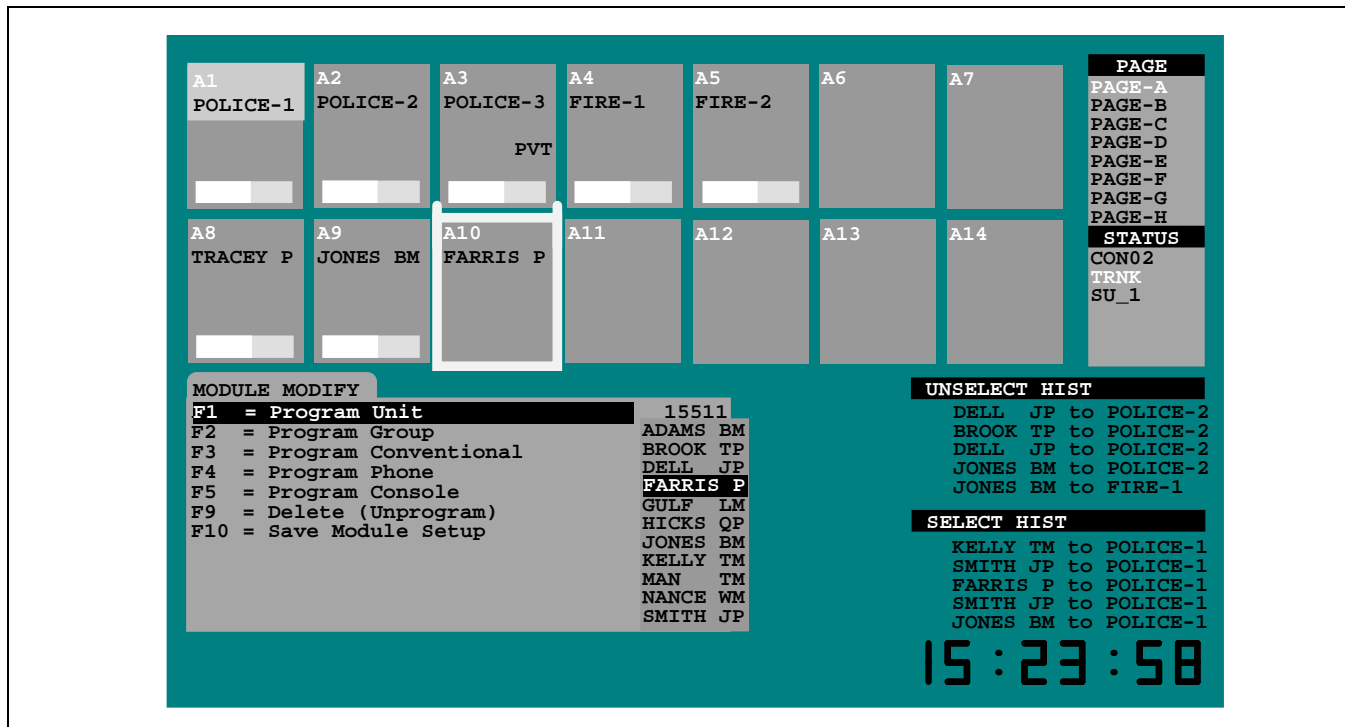

Figure 1 – C3 Maestro Video Display Monitor (Typical; Module Modify Operation Shown)
The PC's video display monitor provides all visual dispatch control indications to the operating dispatcher. This color monitor is typically of a VGA or super-VGA resolution. Basic screen layout is shown in Figure 1. Screen areas include:
- **Module Display Area** – Fourteen (14) communication modules are displayed at all times in the upper portion of the screen. Each module provides instant communication access to a talk group, an individual unit, a conventional channel, or another console. Eight (8) pages of fourteen (14) modules are available for a total of 112 unique communication modules. Each module can be programmed by the console operator.
- Module Page Area** – This area, located in the top right-hand side of the screen, indicates which one of the eight (8) module pages is displayed. When a call is received on a non-displayed page, the respective page indicator is high-lighted in yellow. If an emergency call is received on a non-displayed page, the indicator is high-lighted in red.
- System Status Area** – This area indicates various status information such as console number, name or ID number of the caller, emergency status, EDACS operational status (full-feature trunking, failsoft trunking, etc.), Call Director telephone patch status and line 1 audio level via a VU meter. A VU meter is not shown in the Figure 1.
- Call History and Scroll Area** – This area, located in the lower right-hand side of the screen, displays the last five (5) select calls and the last five (5) unselect calls received. The list is displayed on a caller-to-callee basis. In addition, a detailed scroll list of the last thirty-two (32) select and thirty-two
unselect calls is provided. For each call, this detailed list includes caller and callee ID numbers, time the call started, type of call, site used by caller, and the call's module information. A scroll list is *not* shown in Figure 1.
- System Message/Command Line Area** – This area, located at the bottom left-hand side of the screen, displays prompts and operator-entered data such as radio ID numbers. Various system messages are also displayed in this area such the up/down status of the CEC/IMC-to-console control data communication link (console-to-CIM link) and successful/unsuccessful execution of a patch or simselect. No messages/commands are shown in the Figure 1.